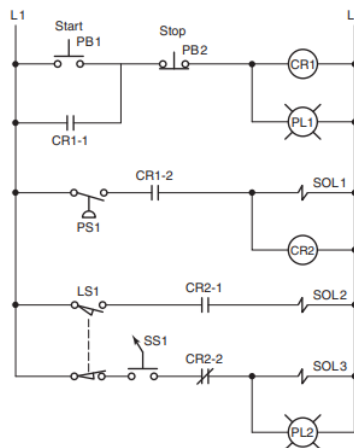

Figure 1
- Develop a PLC program and prepare a typical I/O connection diagram and ladder logic program that will correctly execute the hardwired control circuit in Figure 1